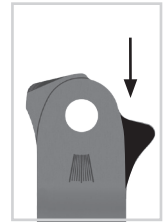

fig. 26
- 3 If necessary, grind the nose for the pressure spring at the system stirrup (fig. 26).